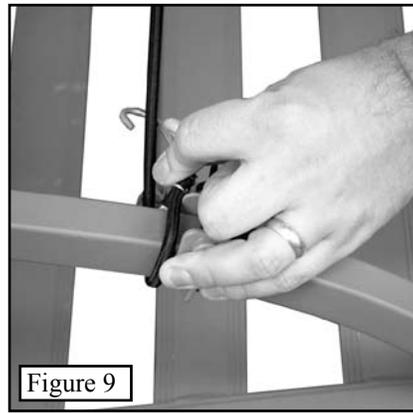

Figure 9
RapidClimb Stirrups. The two (2) RapidClimb stirrups fit on the upright arms of the platform. Simply slide one stirrup on each side of the platform so that they are on the inside of the platform and facing down as shown in **Figure 6**. Once positioned, secure with the bolt and wing nut provided as show in **Figure 7**. Occasional readjustment may be required as your footwear needs change. Wrap the supplied bungee cord around one side of the platform upright bars and push the S-hook through the loop as shown in **Figure 8**. Hook the S-hook around the opposite platform upright bar and back onto itself as shown in **Figure 9**.